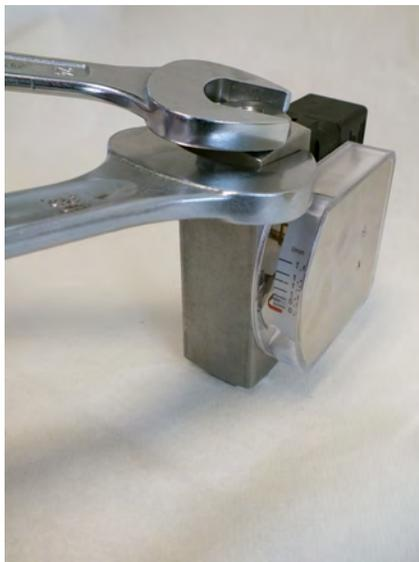

Fig. 60: Tighten process connection (outlet)
- 11.** ▶ Using a proper sized fixed spanner tighten the process connection (outlet). Hold the device body in place using a suitable fixed spanner (Fig. 60), and observe the proper torque ( Chapter 11.1 “Tightening torque” on page 82)